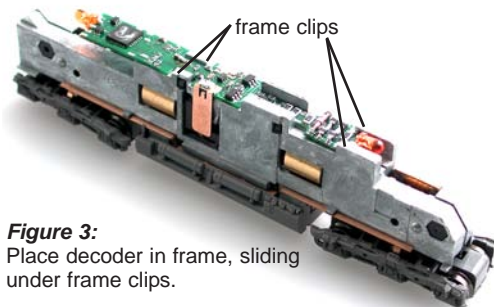

Figure 3: Place decoder in frame, sliding under frame clips.
3. Install the DN163K1B decoder by tilting it slightly as you insert the front corners into the forward frame clips. Press the decoder board forward so the board's corners are under the frame clips. Figure 3
5. Replace the locomotive shell. Digitrax decoders are set up with configuration variable (CV) default values so you can run your locomotive right away using address 03.